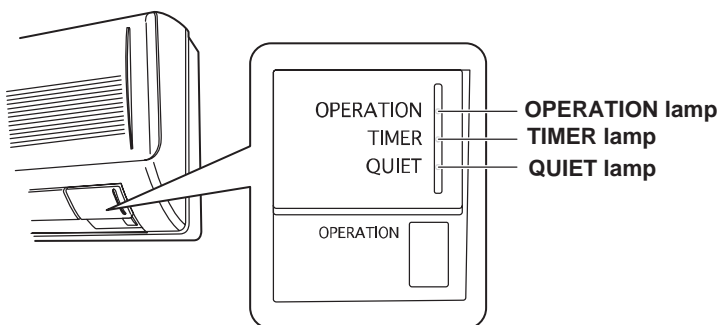

Fig. 8c
- This starts the fan producing uncooled forced air with the 3 indicator lamps (OPERATION lamp, TIMER lamp and QUIET lamp) on the main unit blinking. (Fig. 8c)